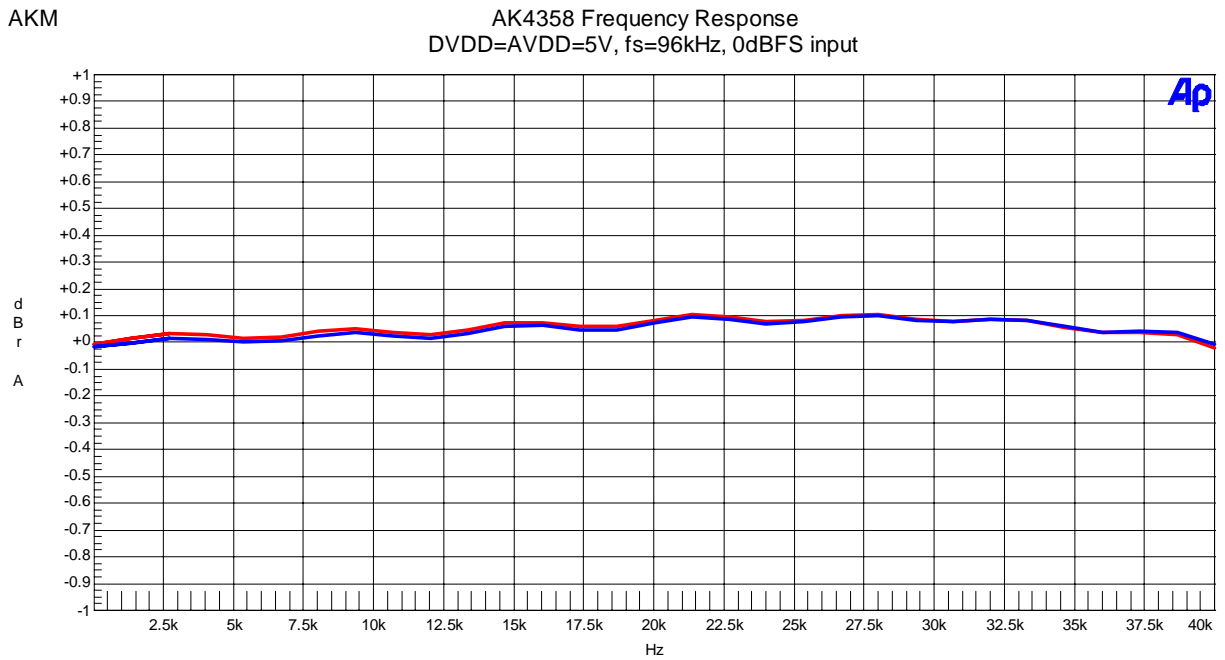

Figure 17. Frequency Response (0dBFS input)
- Figure 17. Frequency Response (0dBFS input)